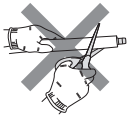

Figure 1
- Do not cut the drain hose of the unit. (Figure 1)